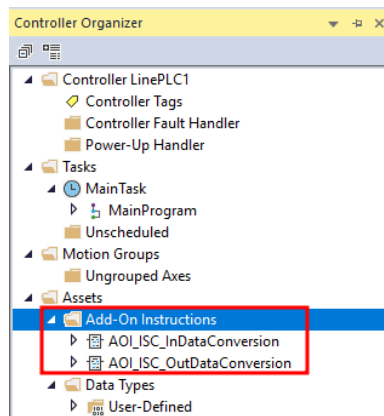

Figure 35: AOI_ISC_InDataConversion Added to Studio 5000 Project
20. Both AOI_ISC_CAM_v2_INPUTS and AOI_ISC_CAM_v2_OUTPUTS add-on instructions shall be added to the project, Figure 35.